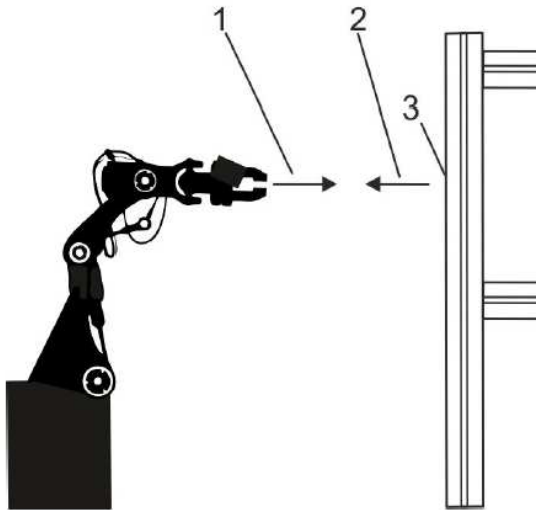

Fig. 14: Example: Robot with rail framework for mounting the assembly adapter
- The normal vector (Fig. 14/2) of the contact surface (Fig. 14/3) forms a line with the collision vector (Fig. 14/1).